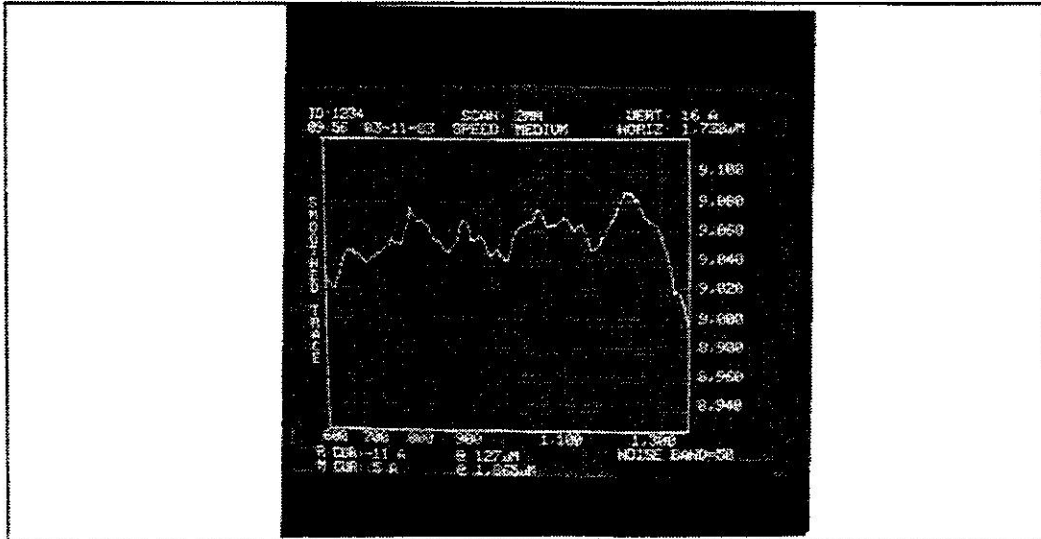

Figure 5-6. After Smoothing
3. The trace will then be smoothed and replotted on the screen (see Figure 5-6). The legend "smoothed trace" will be displayed, vertically, along the left of the display. the original unsmoothed trace can be redisplayed by pressing the \* key and the 2 key.